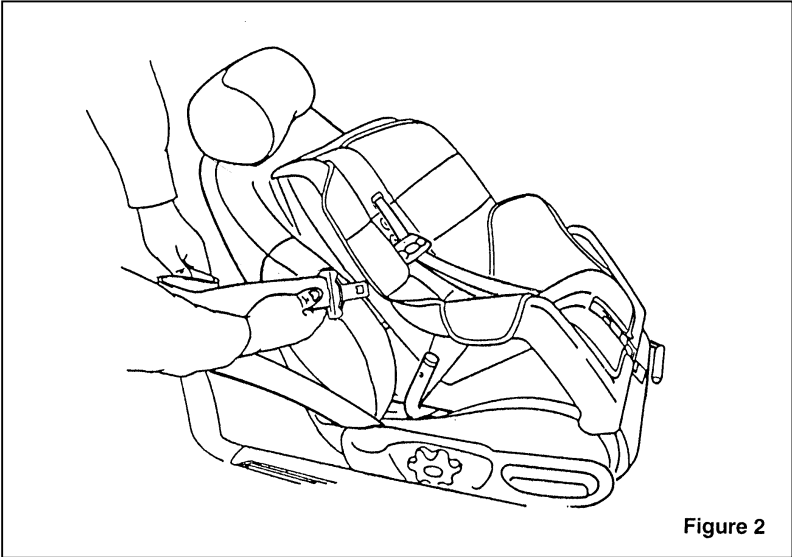

Figure 2
3. While holding the shoulder and lap belt portions together, route the tongue through the child seat according to the child seat manufacturer's instructions. See Figure 2. Be sure that the belt webbing is not twisted.